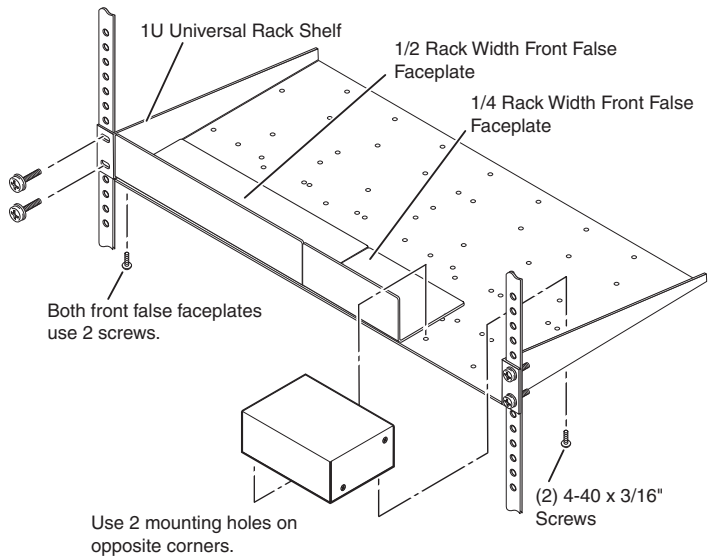

Figure 2-1 — Rack mounting
2. Secure the MPA 152 to the shelf with two 4-40 x 3/16" screws in opposite corners of the base (see figure 2-1 below).